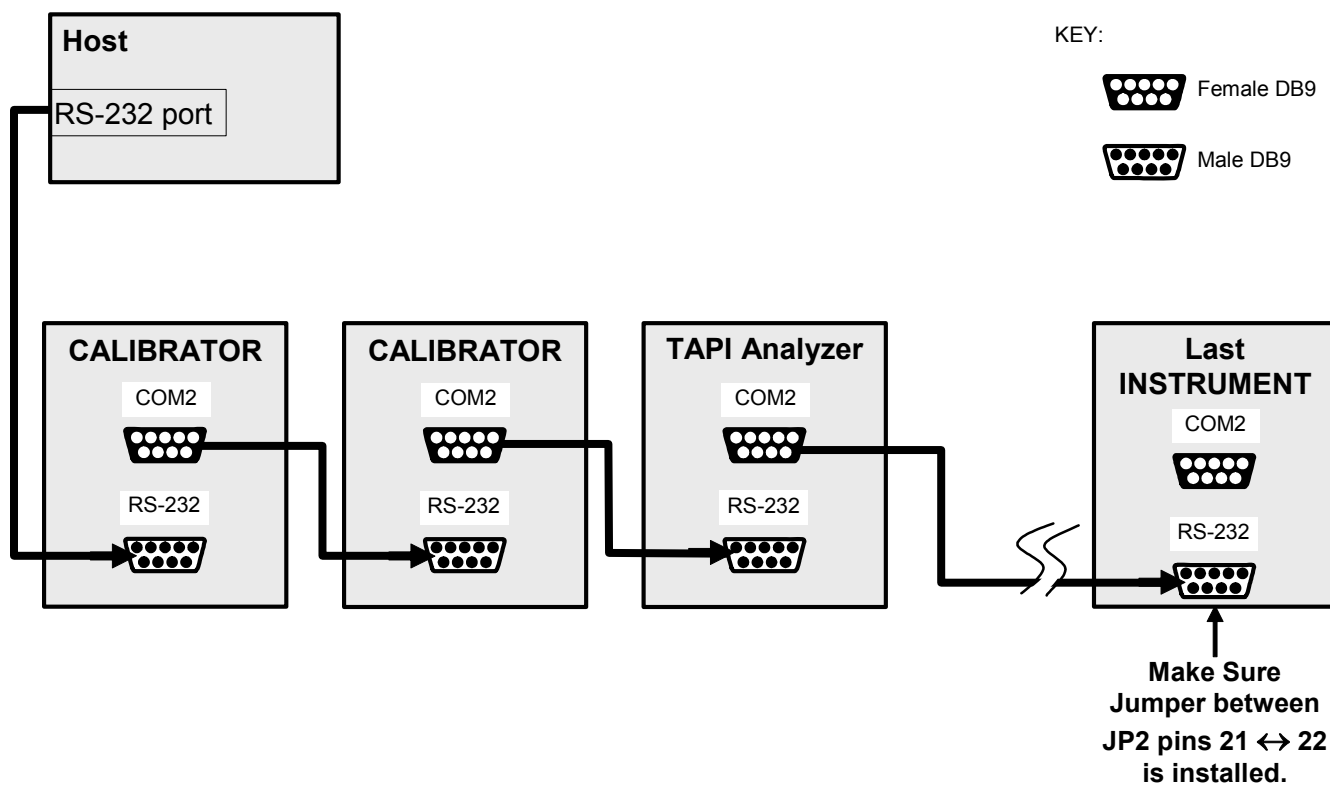

Figure 8-4: RS232-Multidrop PCA Host/Analyzer Interconnect Diagram
7. Using straight-through, DB9 male → DB9 Female cables interconnect the host and the analyzers as shown in Figure 8-4.